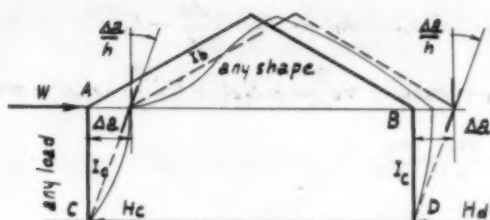

Fig. 20.
**Frame with Lateral Load** (Fig. 20).—If a frame of any shape is subjected to any lateral load acting on a column, equations (30) require only slight adjustment as follows:
For a symmetrical pitched frame with a horizontal force acting at A (Fig. 20), equations (33) become